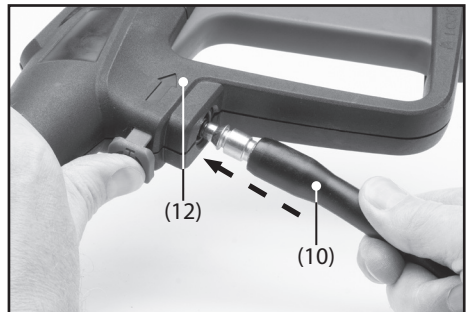

FIG.11
8.6 ATTACHING THE HIGH PRESSURE HOSE – FIGS.11 – 12
- To connect the high pressure hose (10) to the trigger assembly (12), push-fit the hose connector into the inlet on the assembly.
- Disconnection of the hose is achieved by pressing the hose release button (2).
- Insert the other end of the hose (10) into the high pressure outlet (13) and screw the shrouded end of the hose onto the threaded outer section of the pressure outlet, taking care not to cross the threads.